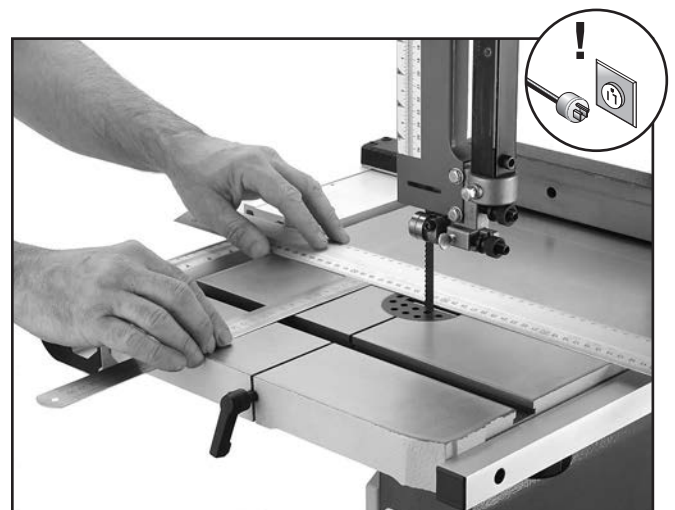

Figure 27. Measuring miter slot parallelism with the blade.
5. Use a fine ruler to gauge the distance between the straightedge and the miter slot. The distance you measure should be the same at both the front and the back of the table (see **Figure 27**).